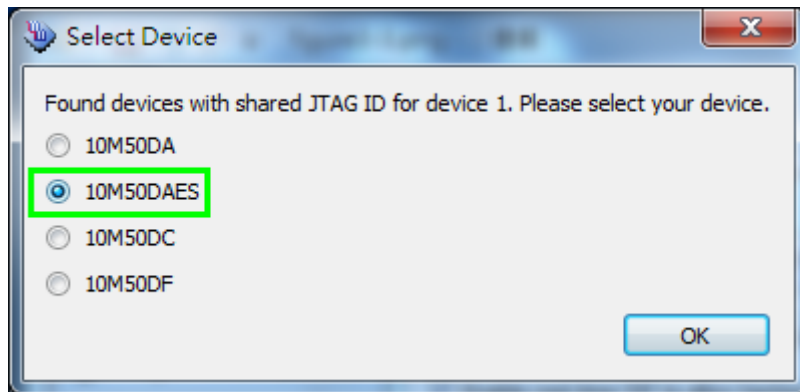

Figure 3-3 Select 10M50DAES Device
2. Select detected device associated with the board, as circled in **Figure 3-3**.